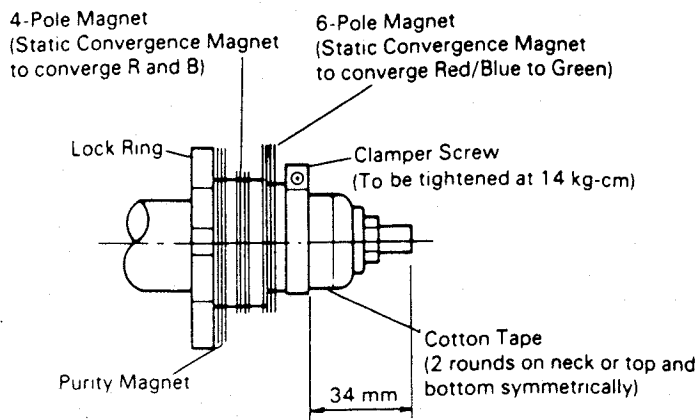
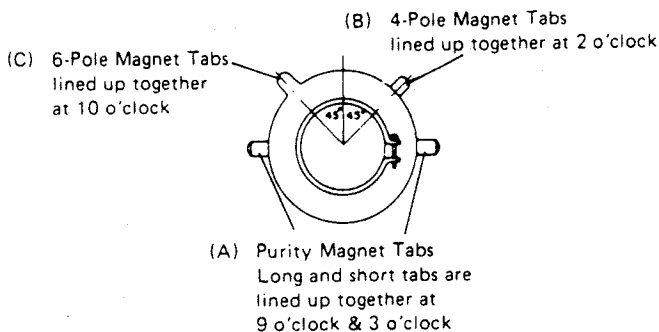

Fig. 6 Static Magnets
Fig. 7 Static Magnet Positions
- (1) Degauss the CRT with degausser.
- (2) Feed in a monoscope pattern signal.
- (3) Check whether the static magnets are fixed in the correct position as shown in Fig. 6 and whether (a) purity magnet, (b) 4-pole magnet and (c) 6-pole magnet fingers are at the positions indicated in Fig. 7.
- (4) Disconnect "CS1" connector chip on the MAIN PWB to obtain magenta color (R & B).
- (5) Loosen the deflection yoke set screw and pull the yoke backward.
- (6) Spread out the two fingers of the purity magnet for the same angle from their original horizontal positions until a magenta vertical stripe appears in the centre of the screen.
- (7) While watching the screen, move the deflection yoke forward until optimum purity position is obtained, then tighten deflection yoke setscrew lightly. If the deflection yoke tends to bow down, insert a spare wedge from top of the yoke flare mouth.
- (8) Reconnect "CS1" connector chip and check for even white screen. If even white color is not obtained, repeat steps (4) to (8).
- (9) Connect the jumper lead between TP401 and the ground to obtain a horizontal line on the screen. If the horizontal line is tilted, rotate the deflection yoke until the horizontal line is positioned within  $\pm 5$  mm from the geometrical centre of the screen. If the horizontal line is not positioned as above, rotate the purity magnet (while maintaining the preset angle between the fingers) until the horizontal line is positioned within the tolerance.
- (10) Remove the jumper lead and confirm purity of entire screen area.
- (11) If necessary, repeat steps (4) to (10).